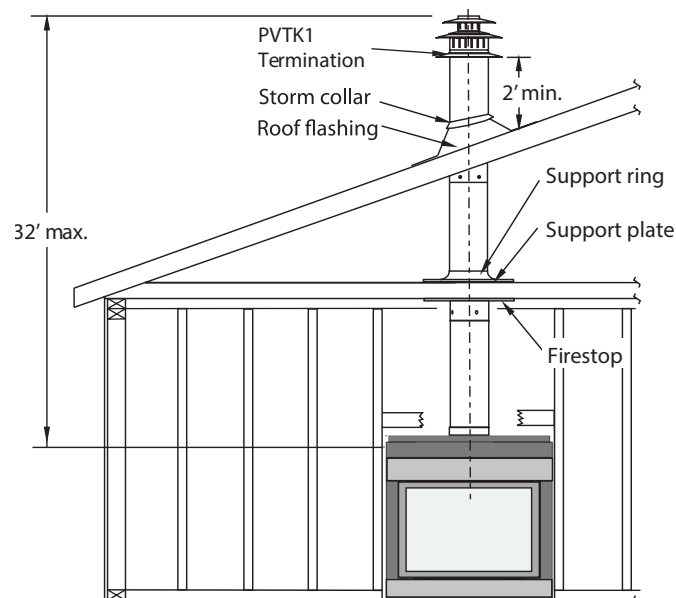

Figure 9. Top vent, Roof mounted termination with no offset in vent run.
- The Vertical termination must be a minimum 2' higher than where the termination exits the roofing materials, (asphalt shingles, cedar shakes, etc). This distance should be measured from the high side of the roof slope where the flue flashing intersects the roofing materials. (see **Figures 9 to 9c**).